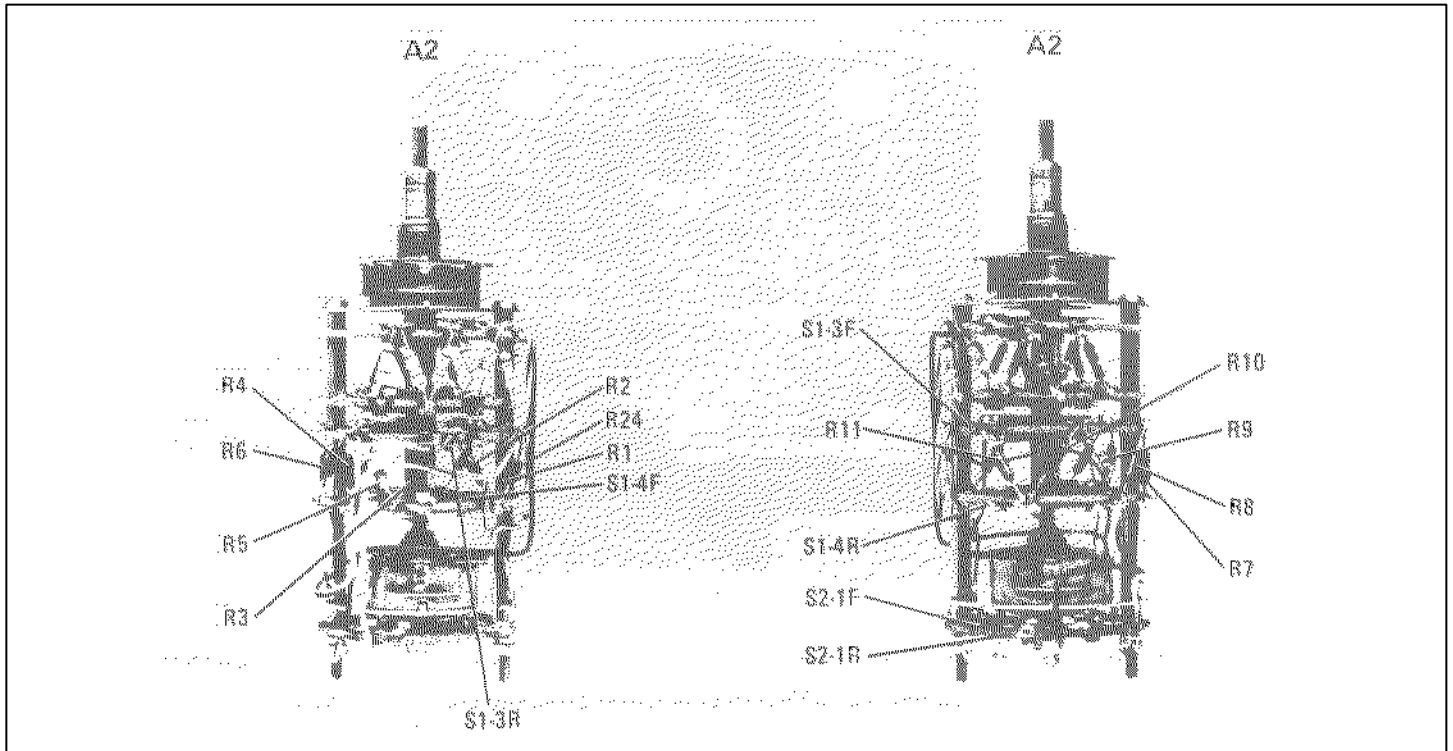

Figure 8-36. Scan Width Switch Assembly-A2 Component Locations (Part of CHANGE 6)
► Replace Figure 8-36 with Figure 8-36 shown in this supplement.